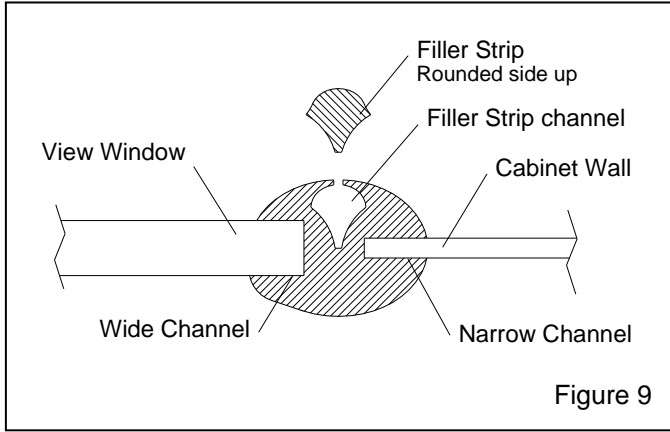

Figure 9
**6.3.5** If the window molding needs replacing, replace it in the same order as the old; the narrow channel fits over the metal edge of the opening, as shown in Figure 9. The molding ends should meet in the middle of the top, straight section of the opening. Molding should be compressed so the ends are tightly sealed.